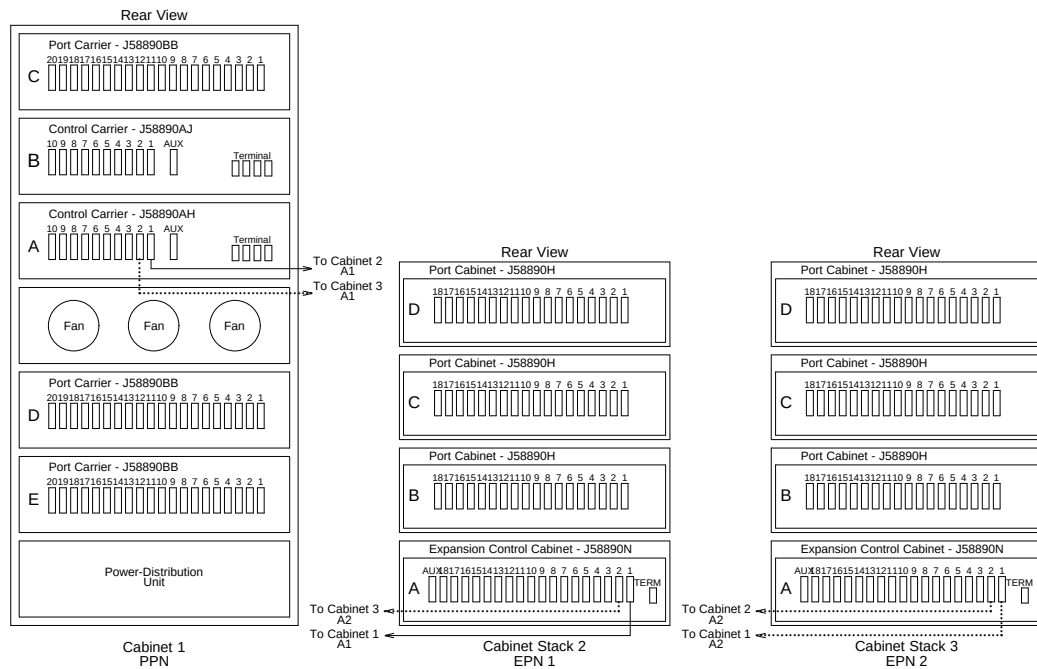
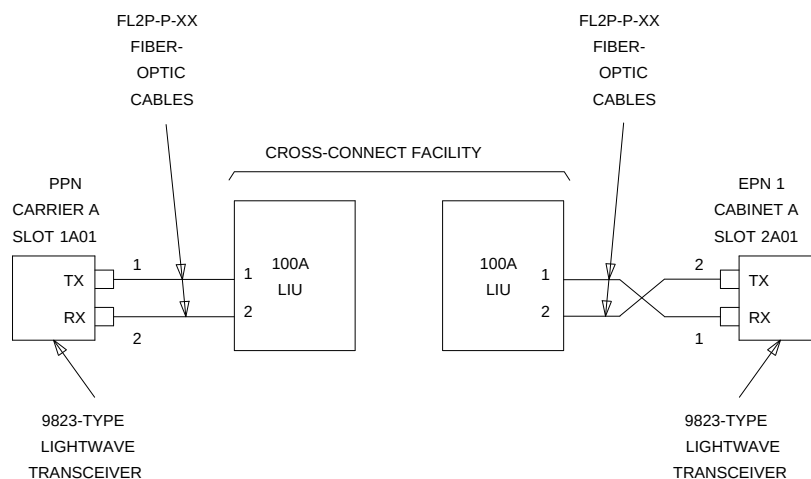
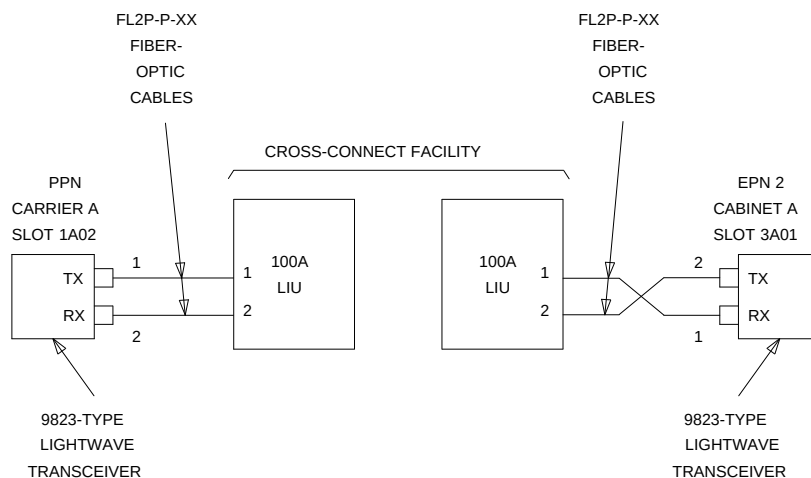
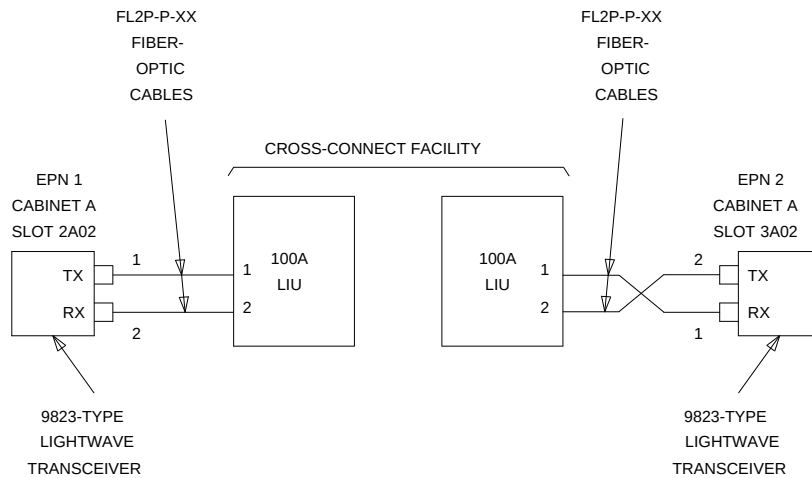

Figure 8-24. High-Reliability DEFINITY ECS Release 5 with Two or Three Port Networks
Figure 8-25. Fiber-Optic Connections PPN to EPN1
Figure 8-26. Fiber-Optic Connections PPN to EPN2
Figure 8-27. Fiber-Optic Connections EPN1 to EPN2
1. Behind control carrier A of the multicarrier PPN (Figure 8-24 on page 8-49, Figure 8-25, Figure 8-26, and Figure 8-27):